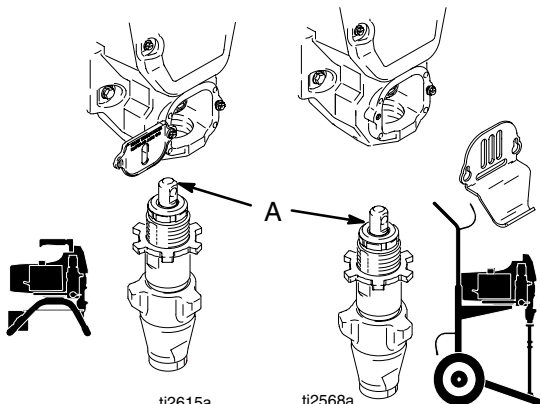

Fig. 12
1. Fig. 12. Extend pump piston rod fully. Apply grease to top of pump rod at (A) or inside connecting rod.